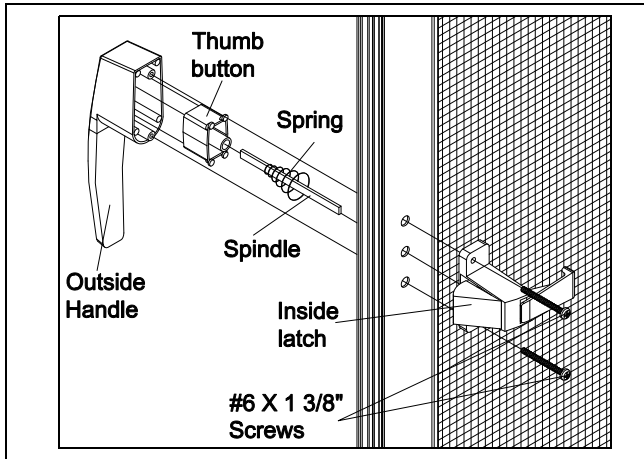

Figure 9
- Remove the template and assemble outside handle with button, spindle and spring. Push this assembly through installation holes from outside of door as shown in figure 9.